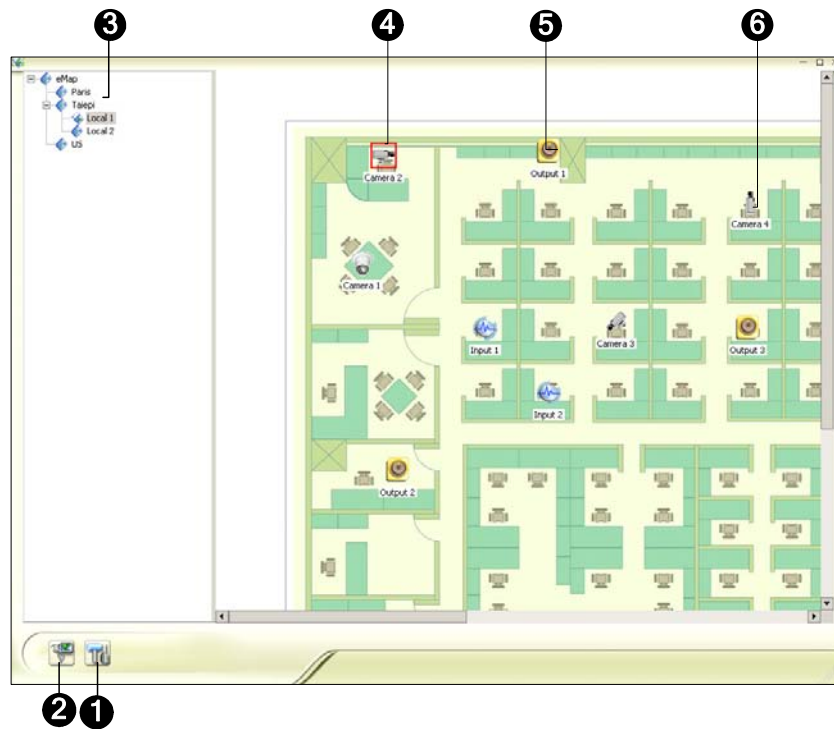

Figure 9-10
1. Click the **Popup Settings** button (No.1, Figure 9-10).
3. Click the **Toggle Popup** button (No.2, Figure 9-10) to enable the function.
Click the **Configure** button (No. 7, Figure 9-10) to display the following dialog box: